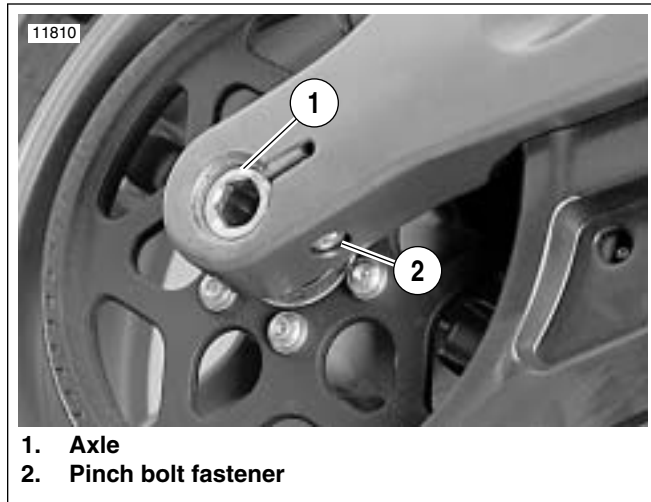

Figure 6-104. Rear Wheel Mounting, Right Side
12. See Figure 6-104. Tighten rear axle (1) to 23-27 ft-lbs (31.2-36.6 Nm), back off two full turns and then retighten to 48-52 ft-lbs (65.1-70.5 Nm).
13. Tighten pinch fastener (2) on right side of swingarm to 40-45 ft-lbs (54-61 Nm).